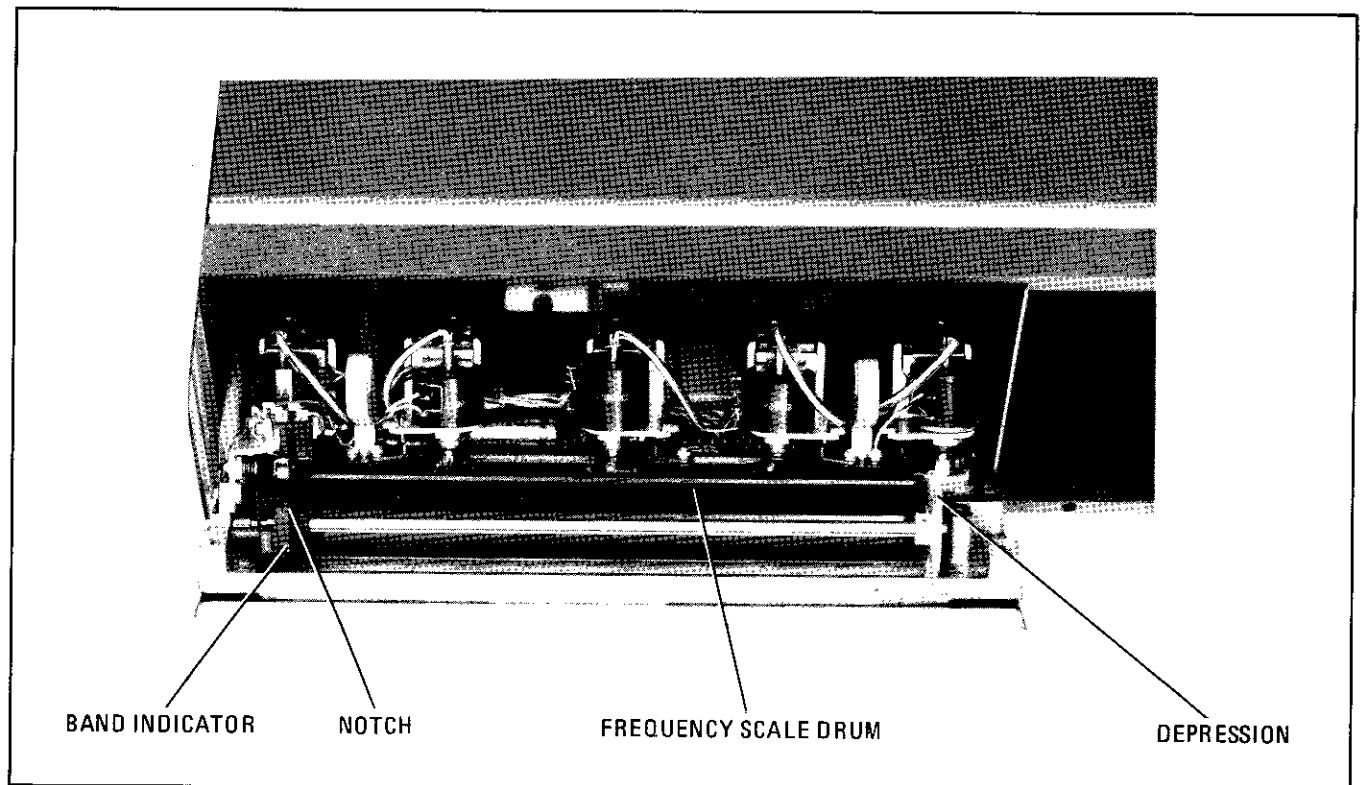

Figure 2-2. Mainframe Front Panel in Open Position
b. Swing front panel forward and down to position shown in Figure 2-2.
fits into notch in roller on left-hand edge of drum (see Figure 2-2).